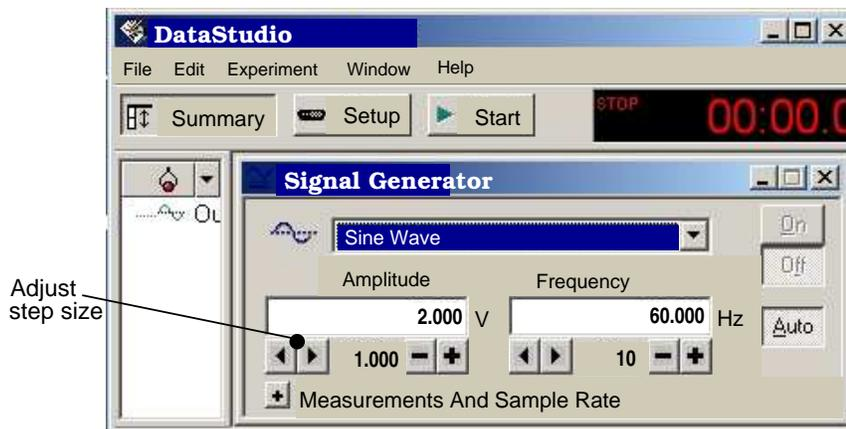

Figure 4: The PASCO DataStudio display.
1. Place the sheet of paper provided on the table; this will make it easier to see the vibration of the string. Measure accurately the distance, L , between the bridge and the pin of the speaker using the two meter ruler; record this in your lab notebook. Click on the LAUNCH EXPERIMENT icon (i.e., the telescope), from the on-line lab manual. The computer monitor will appear as shown in Fig. 4.